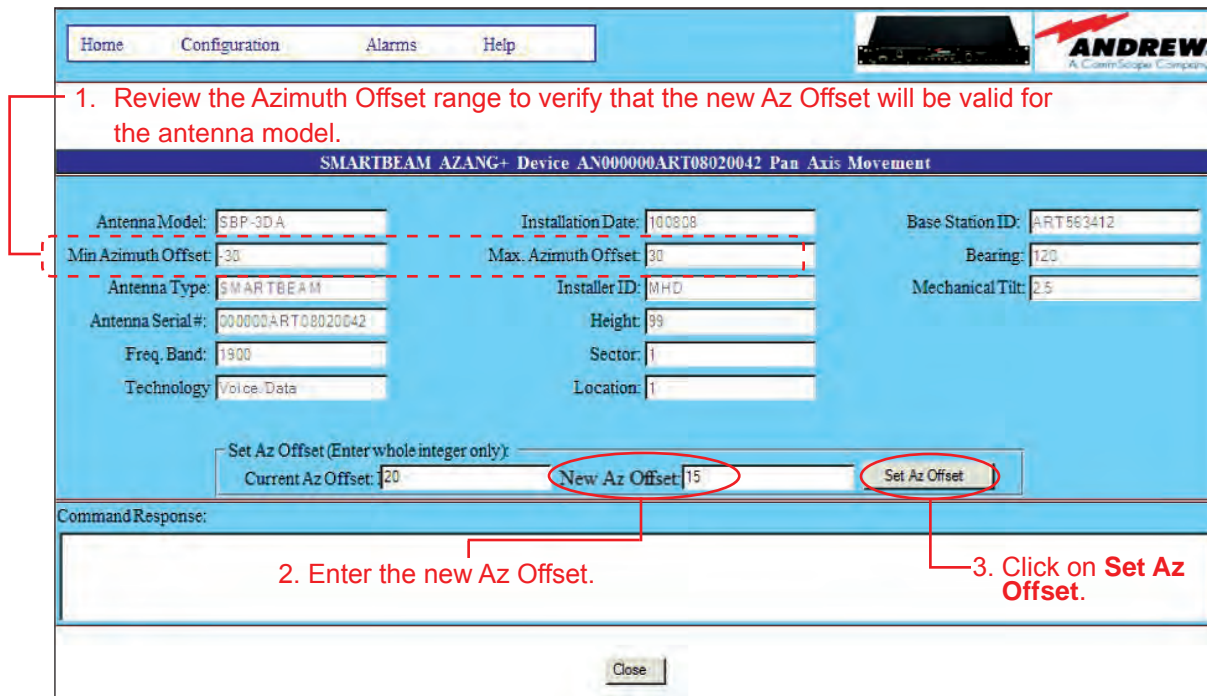

Figure 20-2. Changing Az Offset Setting For Single Antenna.
The **Pan Axis Movement** screen shown in Figure 20-2 displays the information that was previously configured for the device. This information may be used as a reference to help determine the new az offset setting. Note that only movement changes may be made from this screen. Any changes needed to be made to the configuration for the device must be done from the **Device Configuration** screen as discussed in Section 12.
3. Enter the new az offset for the device in the **New Az Offset** field. Note that the allowed range of angle values is displayed in the **Min Azimuth Offset** and **Max Azimuth Offset** fields in the top part of the screen. Any value within this range may be entered. Values may be entered as whole degrees only. (Figure 20-2).